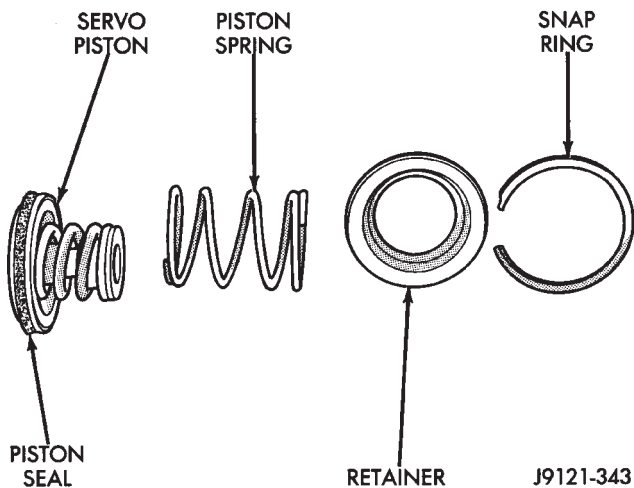

Fig. 139 Rear Servo Components
(1) Install rear servo piston, spring and retainer (Fig. 139). Install spring on top of servo piston and install retainer on top of spring.